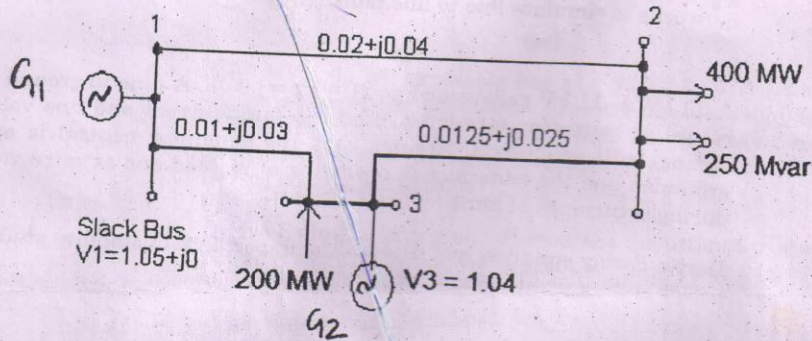

Fig. 12(b)
- (b) The Fig. 12(b) shows the one line diagram of a simple 3 bus power system with generators at buses 1 and 3. Line impedances are marked in p.u on a 100 MVA base. Determine the bus voltages at the end of second iteration using Gauss - Seidel method. (10,22) (16)